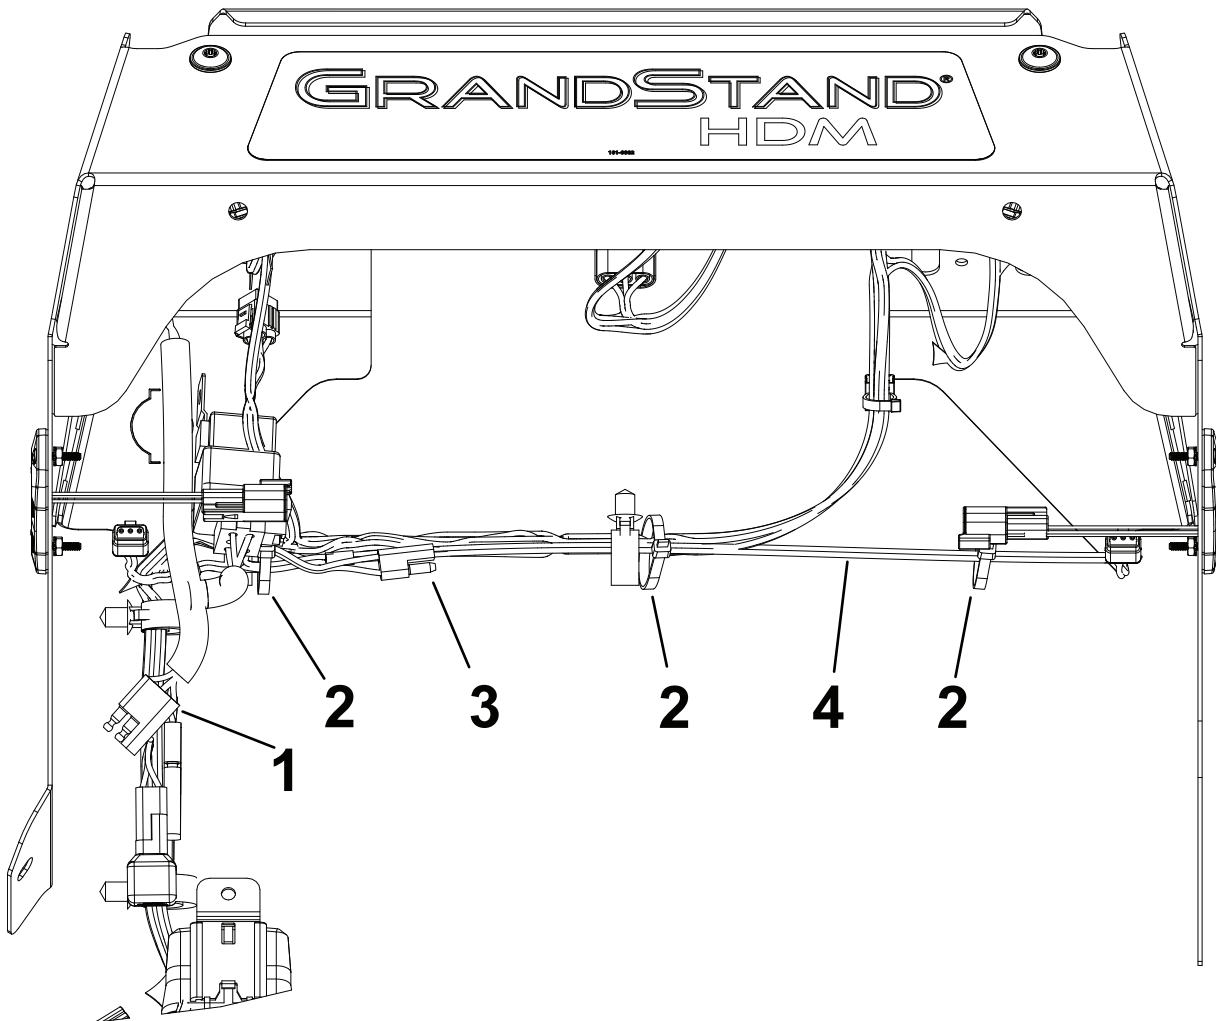

Figure 3
1. Connect the two pigtails to the light harness and route it as shown in Figure 3. Secure the harness to the frame using the cable ties.